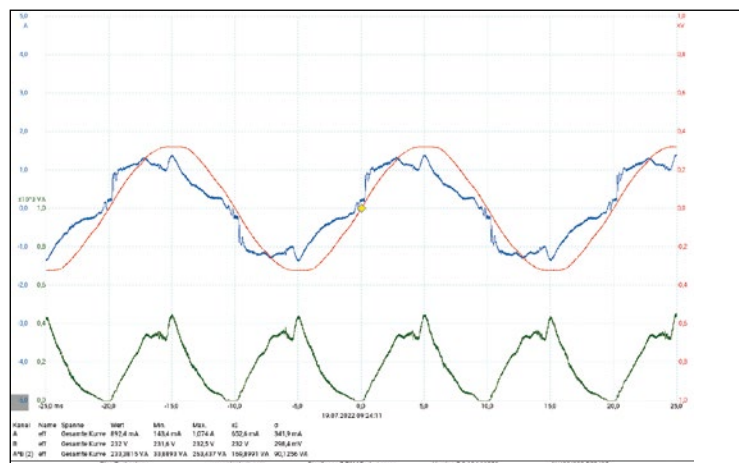

FIG. 16: Course of the mains voltage (red), mains current (blue) and the power consumption calculated
In addition to the absolute values, the power drawn from the mains should follow the voltage as closely as possible and, like a real resistor, the amplifier should thus behave as a load for the mains. Deviations are caused by displacement reactive currents (capacitive or inductive) and by distortion reactive currents (harmonic component). How well the current curve approximates the voltage curve is expressed metrologically by the power factor (PF). FIG. 16 shows the measurement of the Blaze 504 at full load. The power factor is 0.95 and the $\cos \phi$ value that describes the phase relationship of voltage and current to each other is 0.98. Both values indicate effective mains utilisation without major reactive currents or harmonic components. There are no high-frequency disturbances.